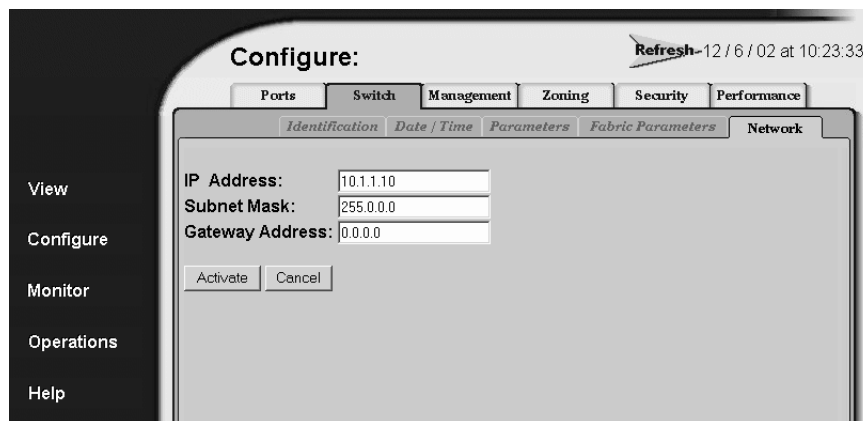

Figure 47: Switch page—Network tab
2. At the **Configure** window, click the **Switch** tab, then click the **Network** tab. The **Switch** page displays with the **Network** tab selected (Figure 47).